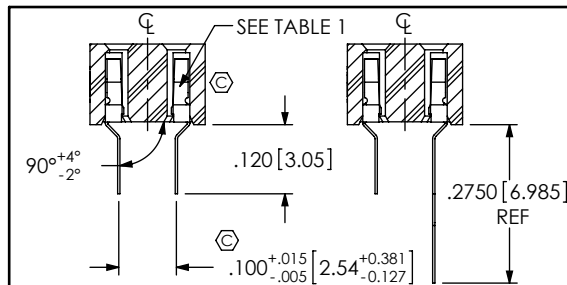

FIG 2
- * -TE: TOP ENTRY (SEE TABLE 1 & FIG 2)